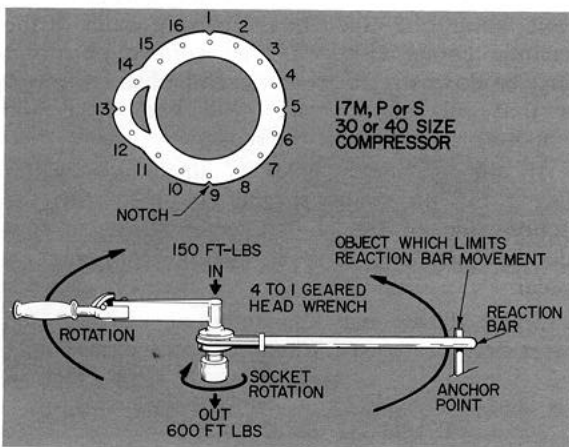

Fig. 6 — Suction Flange and Gear Head Wrench
- Cut notches in gaskets (Fig. 6) to allow use of thickness gages when joining flanges.
- When flanges have reached close and even contact, apply light oil to studs and tighten nuts evenly. Following the sequence indicated in Fig. 6, tighten in about 3 stages, and apply a final uniform torque of 600 ft-lb or over.